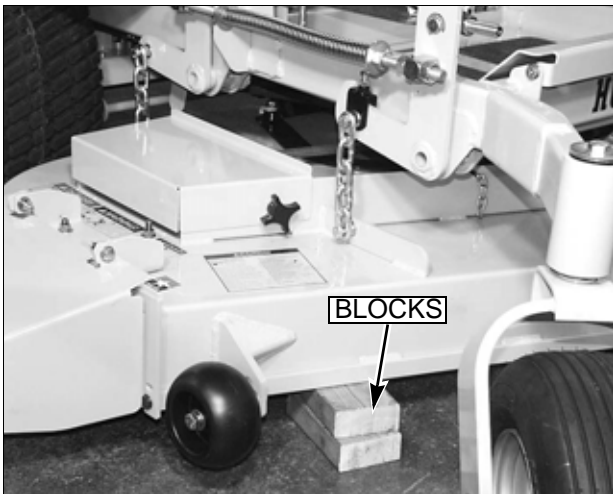

FIG. 61
3. Raise deck and place 3" of blocking under all 4 corners of the deck (FIG. 61). This will set the cutting height at 3 ½". **NOTE:** Back of deck will automatically be set ¼" higher.